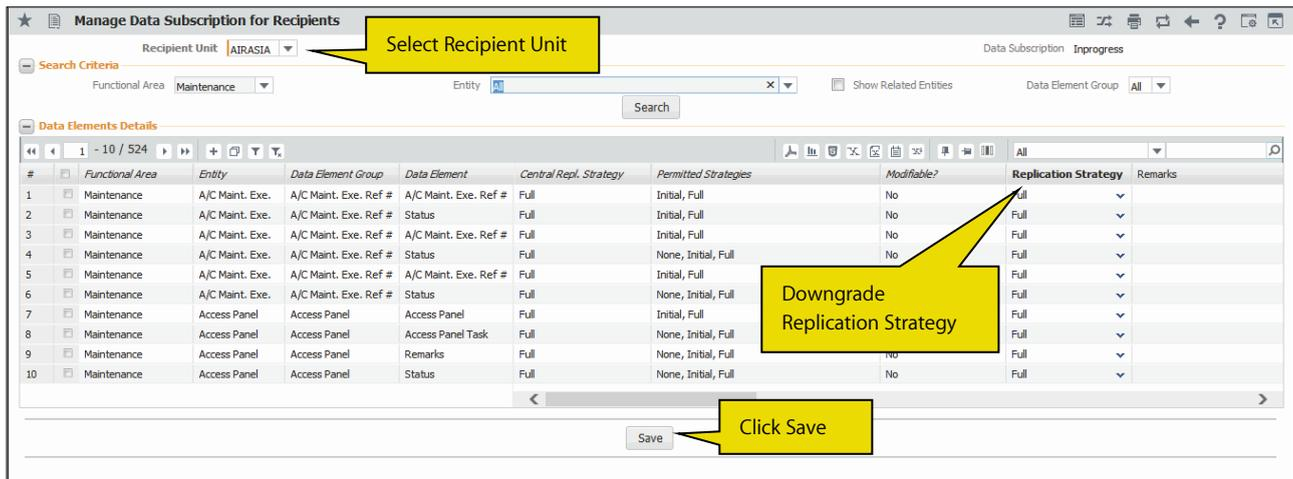

Figure 2.6 Managing data subscription for recipients
1. Select the Manage Data Subscription for Recipients activity under the Central Data Replication Configurator business component. The **Manage Data Subscription for Recipients** page appears. See Figure 2.6.